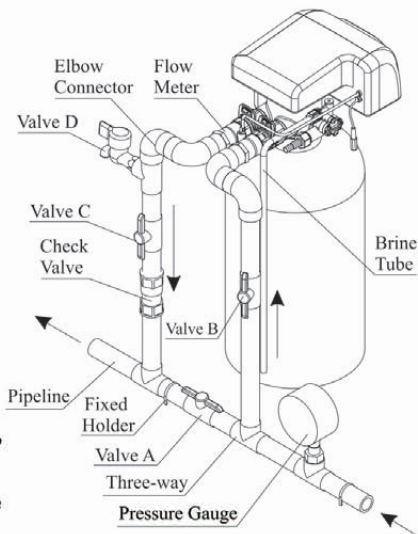

Figure1-3
④ Pipeline Connection
a. As Figure1-3 shows, install a pressure gauge in water inlet.